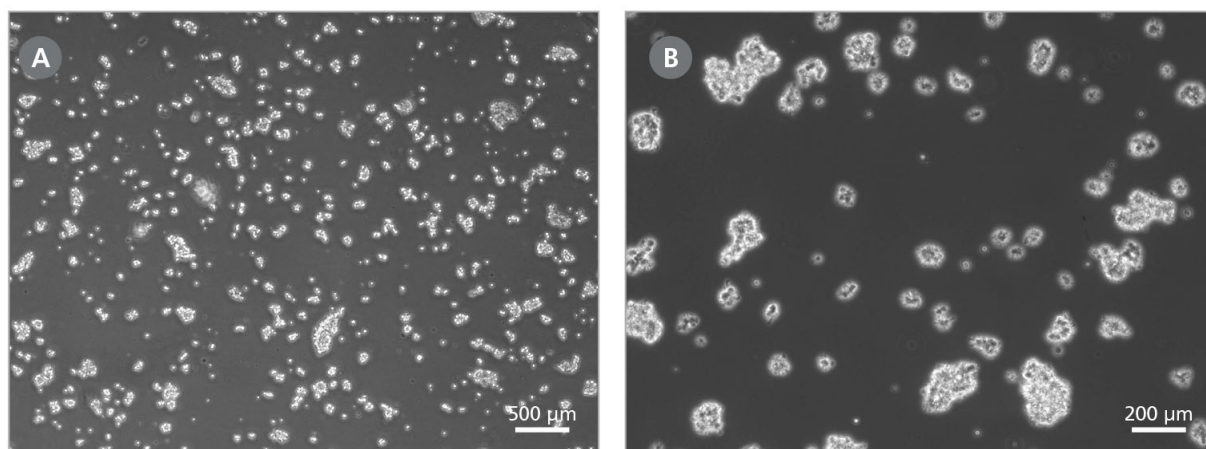

Figure 3. Aggregate Size of hPSCs Following Passaging With ReLeSR™
Note: Optimal dissociation time may vary depending on the cell line used; when passaging a cell line with ReLeSR™ for the first time, the optimal dissociation time should be determined (for more information see Figure 3 and section 8.0).
8. Using a 5 mL serological pipette, transfer the detached cell aggregates to a 15 mL conical tube. Cell aggregates should be appropriately sized for plating (mean aggregate size of approximately 50 - 200 µm; see Figure 3).